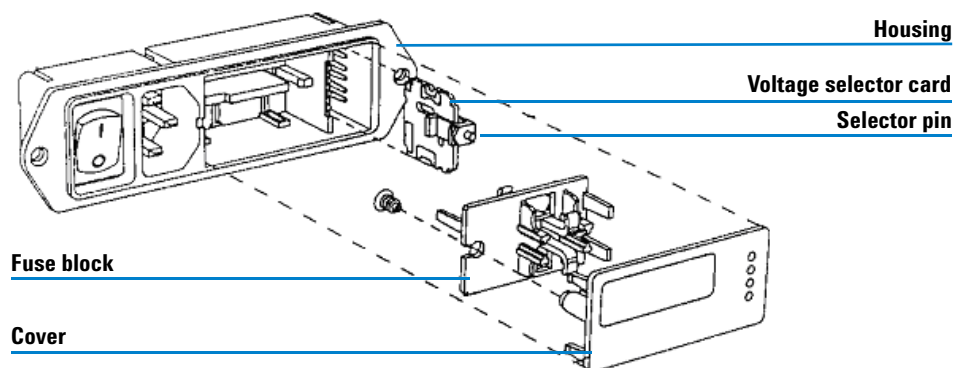

Figure 14 Fuse-block assembly
- 3 Grasp the voltage selector card (not the indicator pin which is attached to it) using needle-nosed pliers and remove it from the housing (see Figure 14).